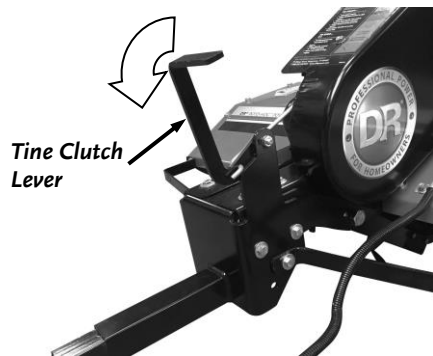

Figure 14
2. Pull the Tine Clutch Lever all the way forward until it locks into place to disengage the Tines (Figure 14).